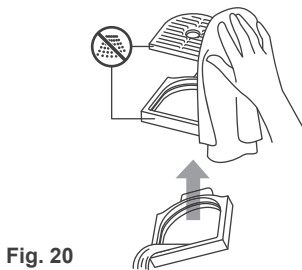

Fig. 20
2. The Drip Tray can accumulate up to 6 oz. of overflow. To drain the Drip Tray, remove the Drip Tray by pulling on it and discard the liquid. (Fig. 20) Use damp non-abrasive cloth to clean the Drip Tray. (Fig. 20) DO NOT use a dishwasher to clean the Drip Tray.